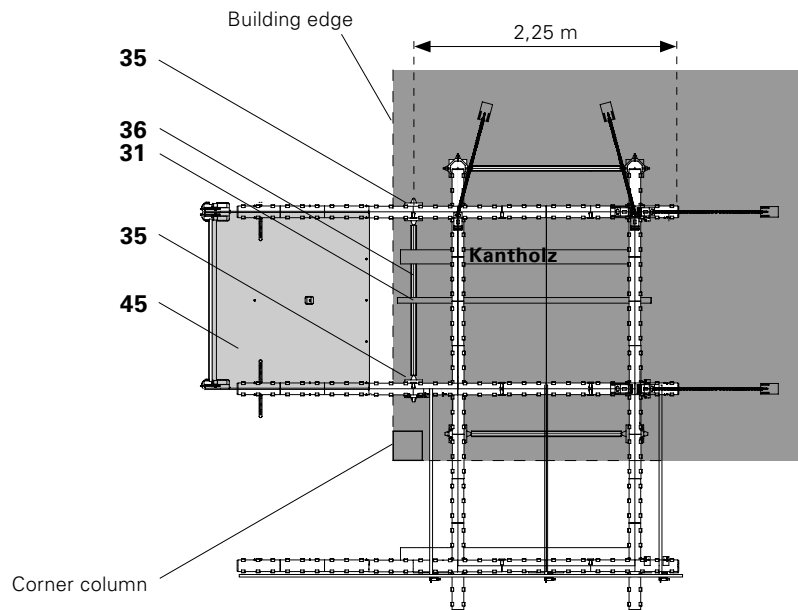

Fig. A9.06a
5. Mount the inner SKYDECK Platform SDB (45). (Fig. A9.06a)
2. Position the corner table at the corner of the building so that the front MULTIPROP Props MP (35) are as close as possible to the edge of the building. (Fig. A9.06a)